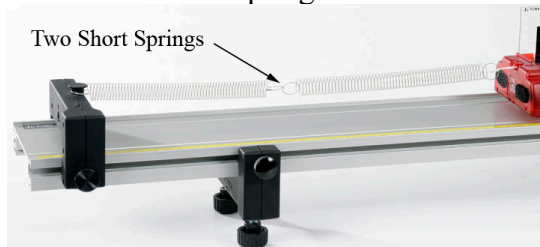

Figure 6: Connect Two Short Springs
8. Replace one of the weak long springs with two of the weakest short springs as shown in Figure 6. The weak short springs are the ones without the blue paint.